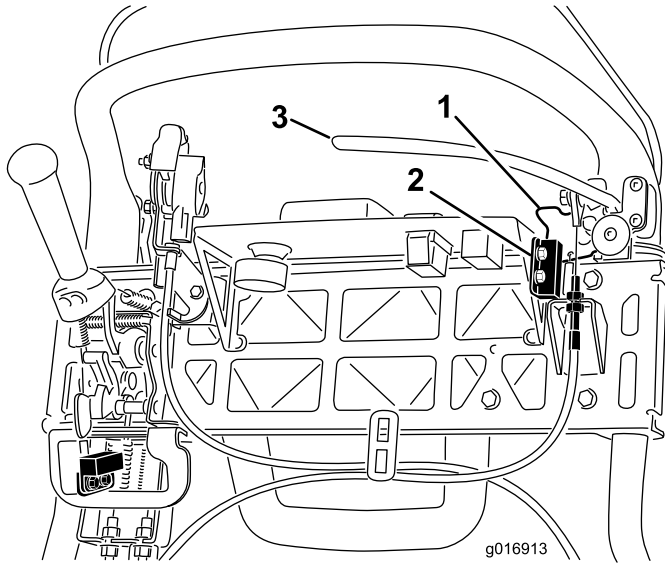

Figure 39
4. Loosen the interlock switch mounting fasteners (Figure 39).
5. Place a 1.6 mm (0.062 inch) thick shim between the parking brake latch and the interlock switch (Figure 39).
4. To increase the cable tension, loosen the upper cable jam nut and tighten the lower cable jam nut (Figure 39) until a force of 156 N (35 lb) applied to the brake lever handle, is required to release the parking brake latch. Do not over adjust or the brake band may drag.